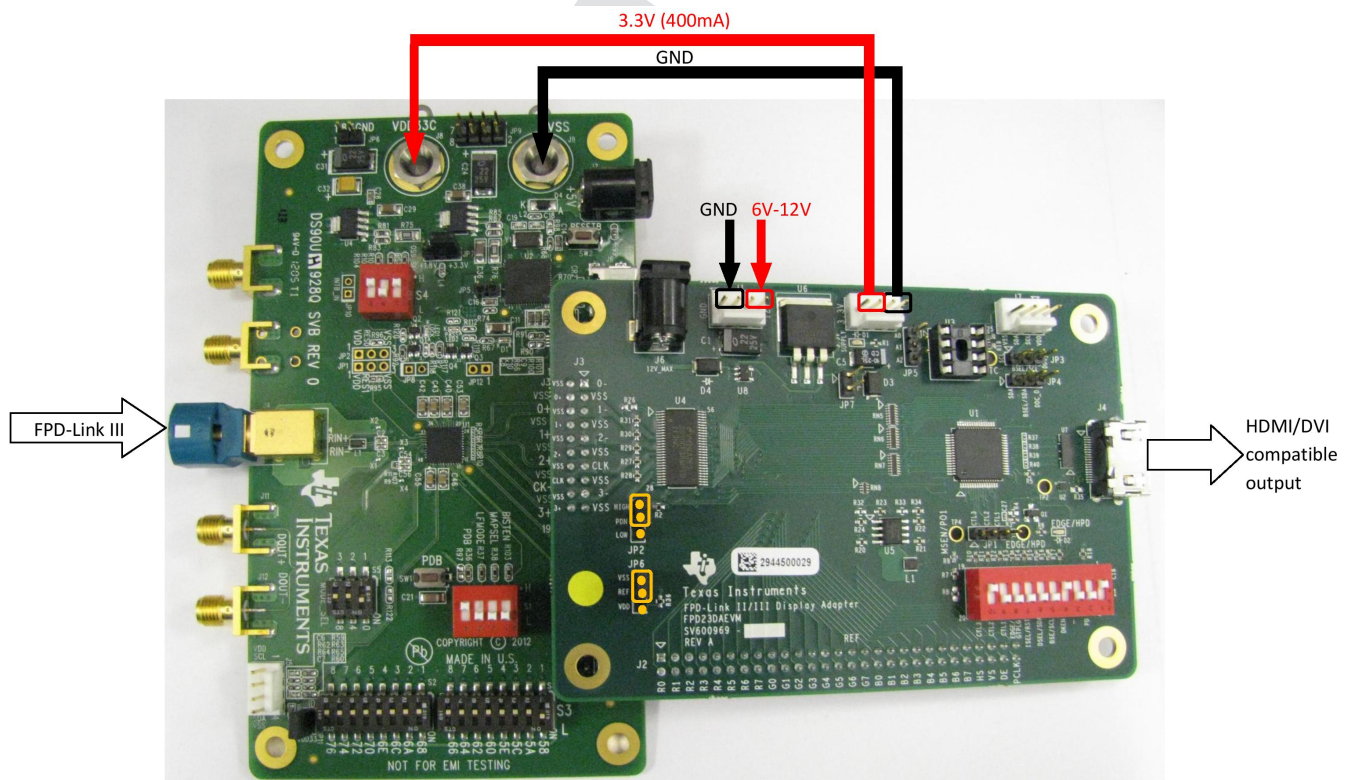
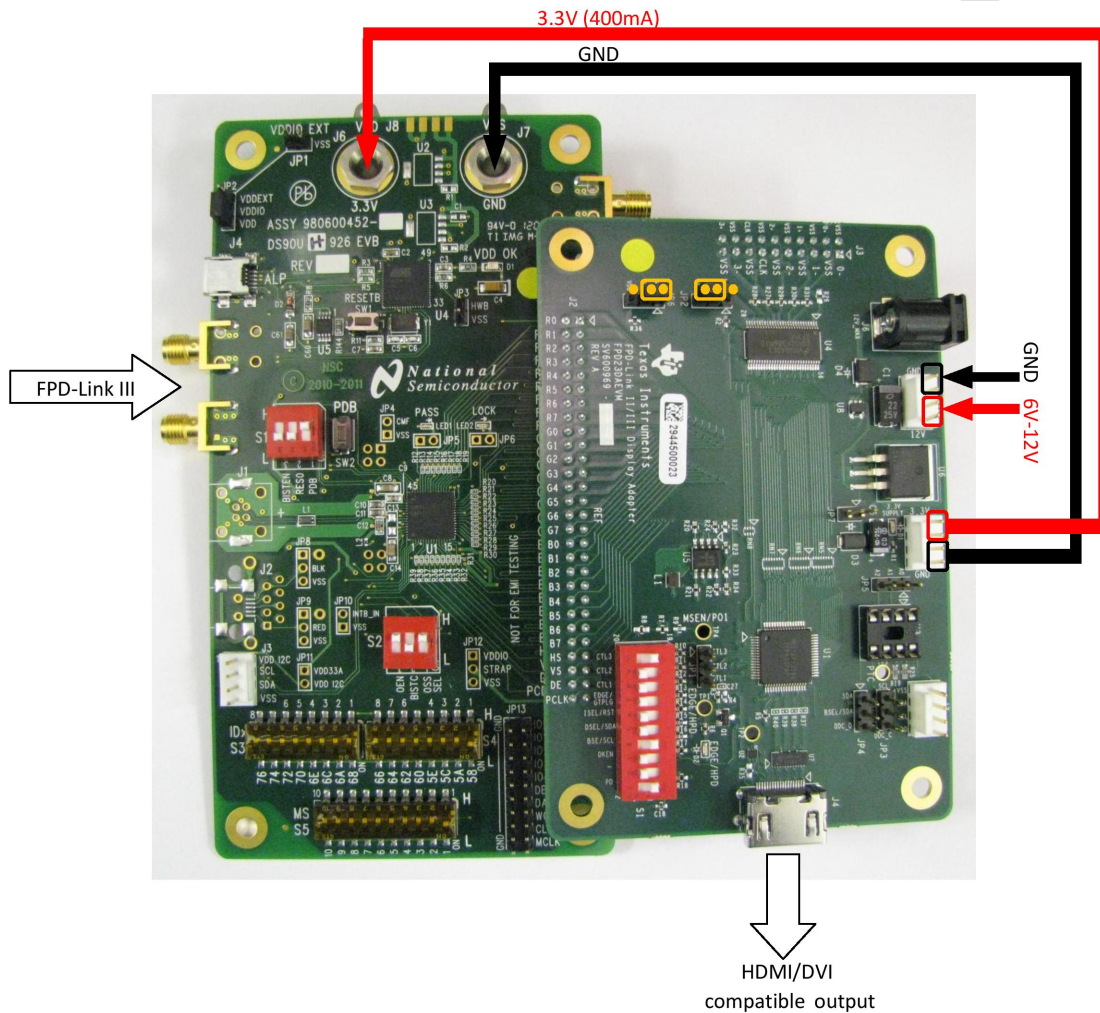

Figure 2-1. FPD23DAEVM with FPD-Link input
Figure 2-2. FPD23DAEVM with Parallel LVCMOS input
1. Verify the factory settings for the adapter board as shown in Figure 2-1 and Figure 2-2.
FPD23DAEVM can be powered up by 6V(min) to 12V(max) DC supply as detailed in Figure 2-1 and Figure 2-2. **Apply power to only ONE of these ports: J1 or J6.**